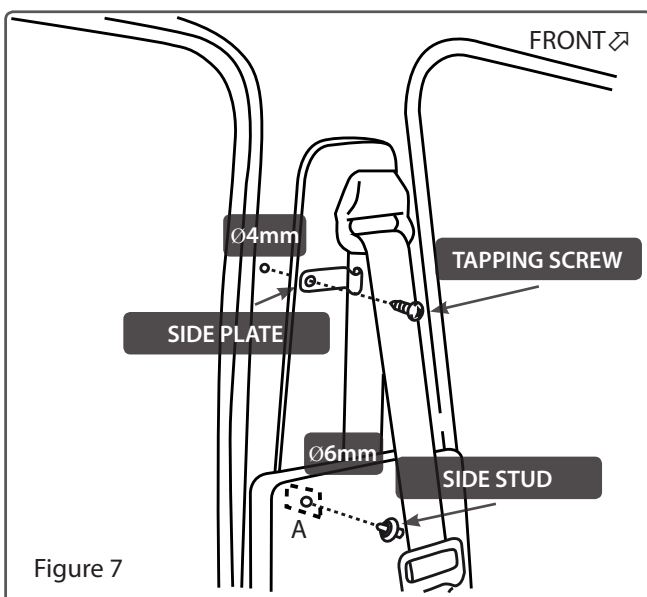

Figure 7
12. Screw (8) side plate(3) into 4mm hole (make sure hook on plate is facing front of vehicle) as shown in figure 7.